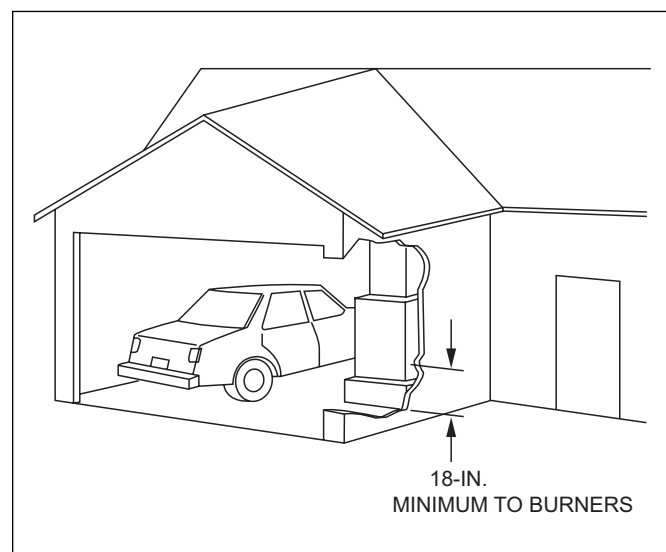

Figure 6 Installation in a garage
- ▶ When the furnace is installed in a residential garage, the burners and ignition sources must be located at least 18 inches above the floor. The furnace must be located or protected to avoid damage by vehicles. When the furnace is installed in a public garage, airplane hangar, or other building having a hazardous atmosphere, the furnace must be installed in accordance with the NFPA. (See Fig. 6).